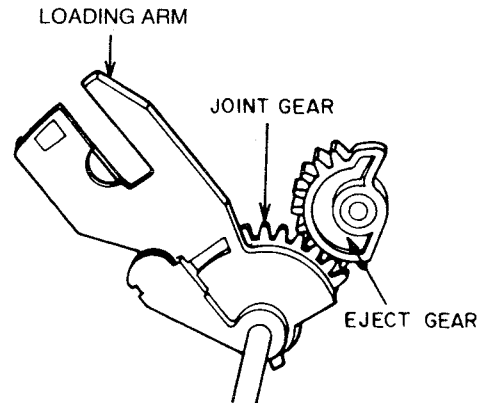

Fig. 3-18
- 1) While covering the SENSOR (S) with your fingers, connect the AC power plug to the AC socket. The FRONT LOADING SLIDER will reach the "EJECT" position. Then disconnect the AC power plug from the AC socket before you release your fingers from the SENSOR (S).
- 2) Install the LOADING ARM BLK in the reverse order of 3-1-2 (Removal of the LOADING ARM BLK). Set the position between both the EJECT GEAR and the JOINT GEAR as shown in Fig. 3-18.